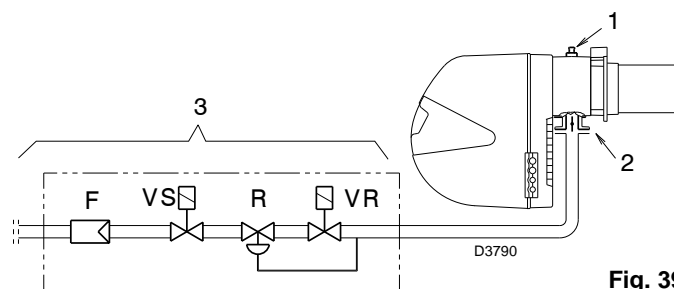

Fig. 39
Gas pressure measured at the test point 1)(Fig. 39), with:
Load loss at gas butterfly valve 2)(Fig. 39) with maximum opening: 90°.
Load loss at train 3)(Fig. 39) including:
- Subtract the combustion chamber pressure from the gas pressure measured at test point 1)(Fig. 39).
- Gas pressure at test point 1)(Fig. 39) = 8 mbar
To know the required gas pressure at test point 1)(Fig. 39), set the MAX output required from the burner operation:
- Read, on the right, column 1, the socket pressure 1)(Fig. 39).
pressure required at test point 1)(Fig. 39).